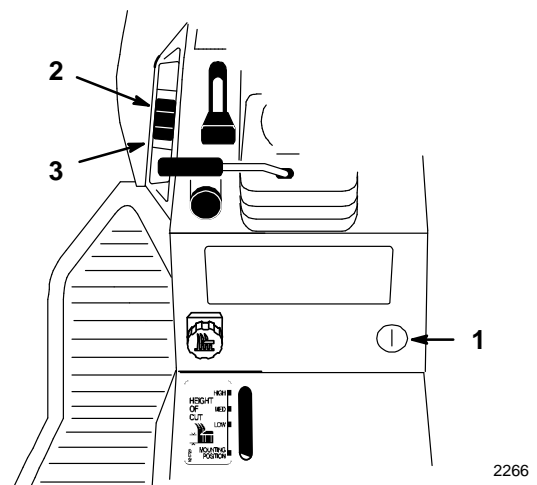

Figure 20
The attachment power lift (optional on some models) (Fig. 20) is used to raise and lower attachments.
1. Turn key to the “ON” or “RUN” position (Fig. 20).
2. Push the lift switch in the “UP” direction to raise the attachment lift (Fig. 20). This will lift and hold the attachment in the up, or raised position.
2. Push the lift switch in the “DOWN” direction to lower the attachment lift (Fig. 20). This will lower the attachment lift.